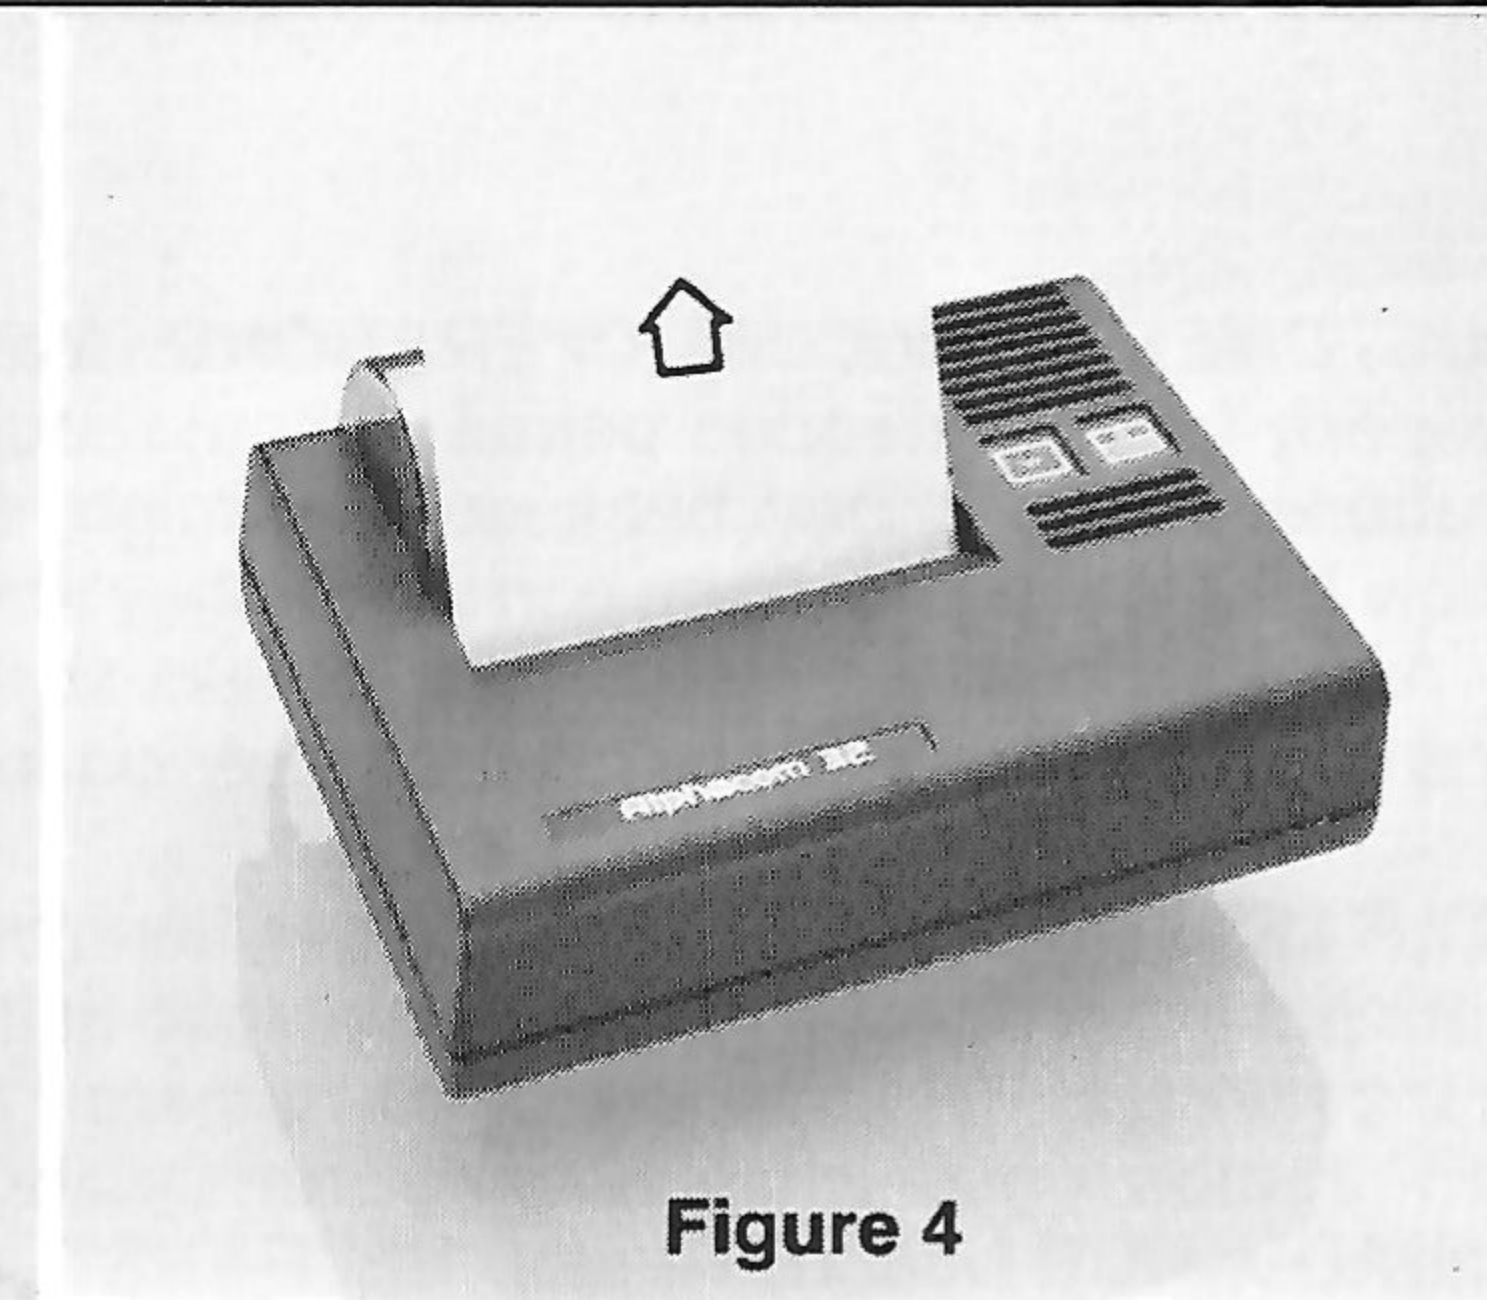

Figure 4
**STEP 4:** Confirm that the paper is feeding correctly by pressing the ON/ADVANCE switch. Check that the paper feeds smoothly, evenly, and remains properly centered within the thermal head area. See Figure 4. When you are satisfied that the threading is correct, the excess paper may be removed by using the built-in paper tearing edge.